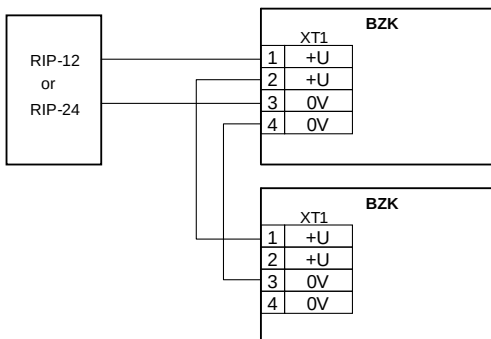

Figure 4
2.1.3 To provide more than eight outputs, the BZK is equipped with two input terminal blocks. One of the two blocks is designed to connect a next BZK in parallel (see Figure 4).